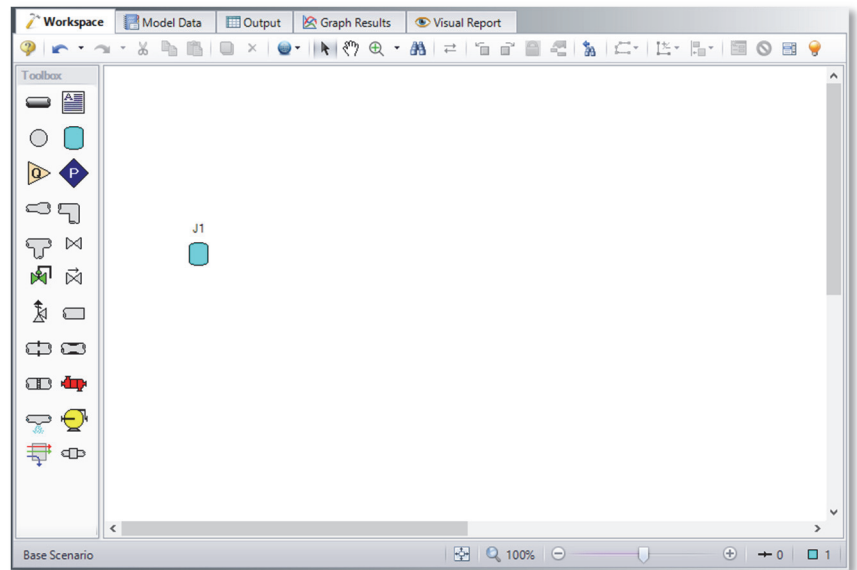

Figure 2.5a Walk through model with first junction placed
- **To start, drag a Tank junction from the Toolbox** and drop it on the Workspace. Figure 2.5a shows the Workspace with one tank.